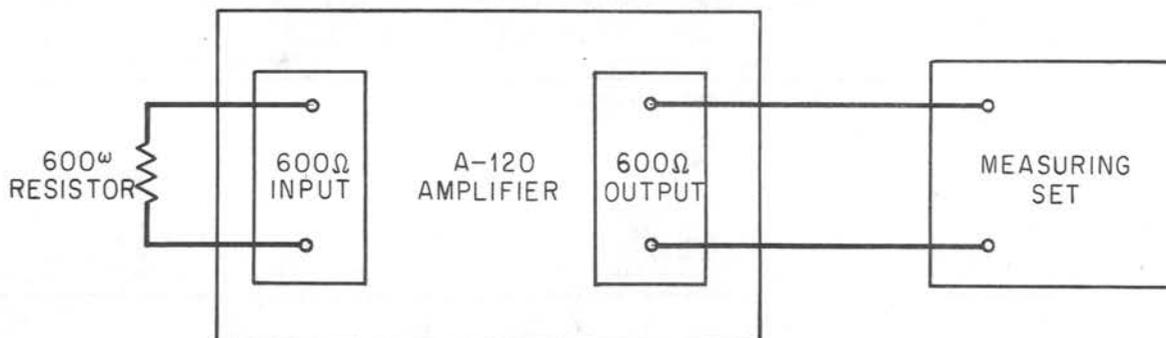

Fig. 3 — Noise Measuring Arrangement
- (1) Terminate the input of the amplifier under test with the 600-ohm resistor.
- (2) Set up the testing arrangement shown in Fig. 3, using the transmission measuring set; shielded connecting cords may be used but are not required.
- (3) Adjust amplifier controls for maximum gain and the input selector switch to the "600 Ω " position.
- (4) Adjust the "hum balance" potentiometer for minimum reading on the transmission measuring set.